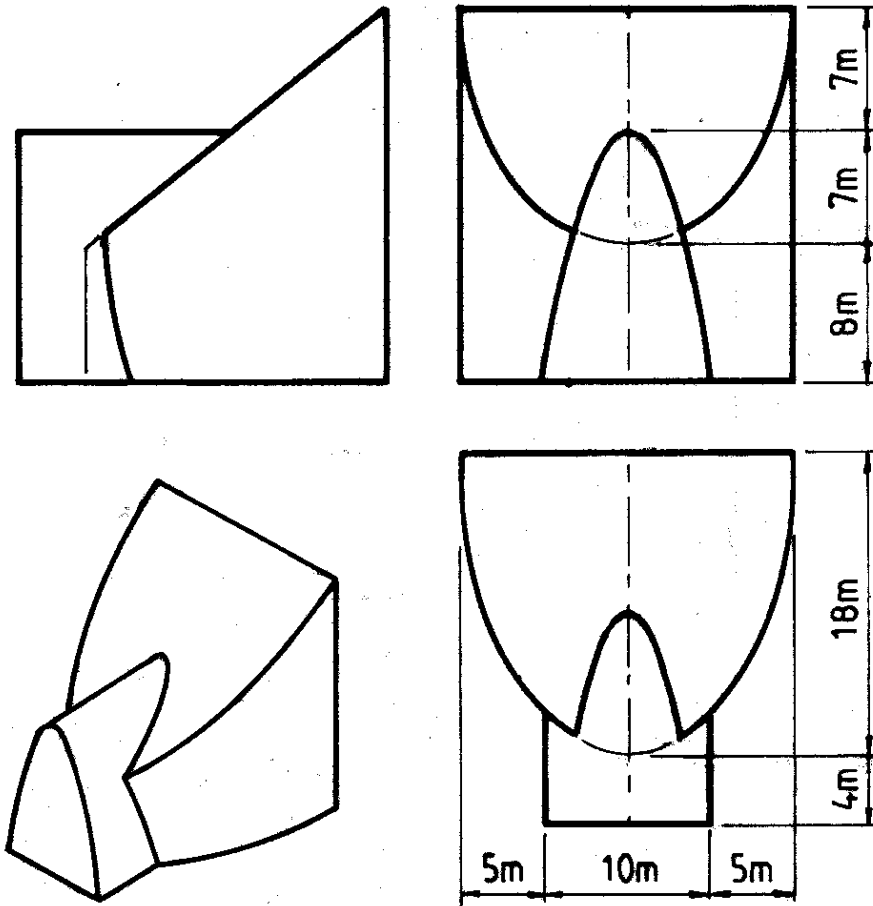

FIG.6
6. Fig. 6 shows the outline plan, elevation and end elevation of a building. A pictorial view of the building is also shown. The main building is semi-elliptical in plan and the elevation of the entrance lobby is a parabola.